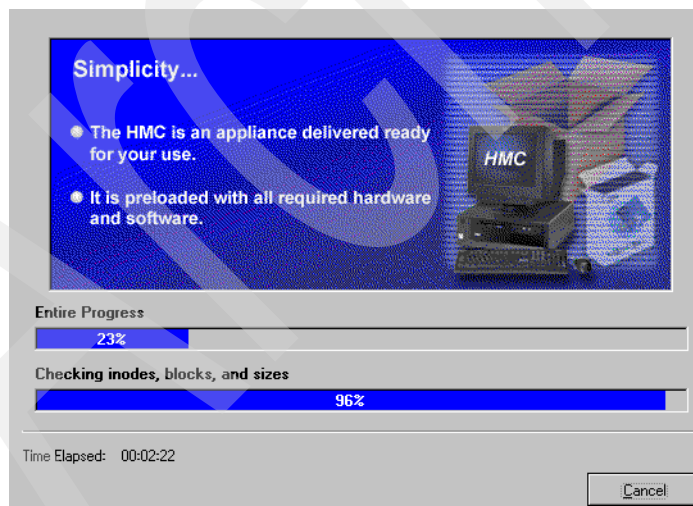

Figure 14-17 HMC update status
6. An HMC progress screen starts, similar to the one in Figure 14-17.